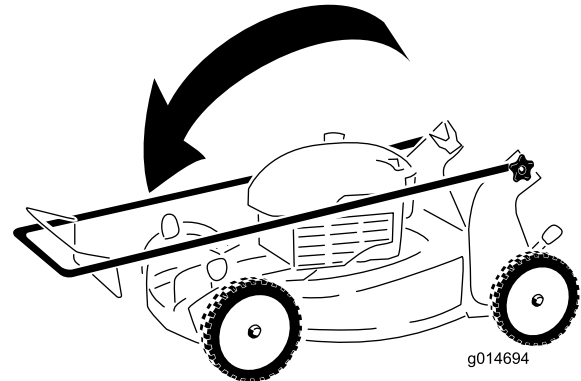

Figure 26
3. Fold the upper handle forward as shown in Figure 26.